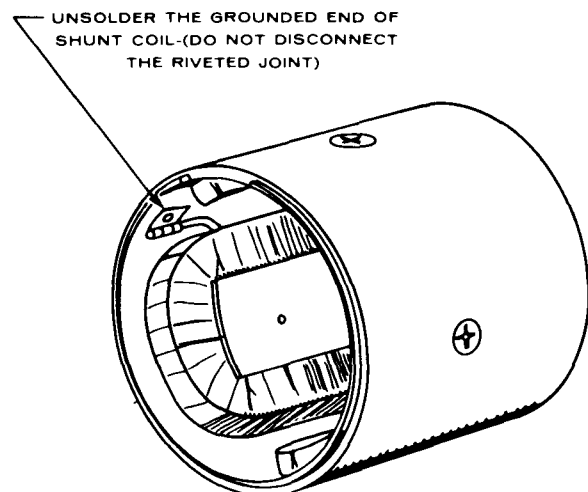

FIGURE 52
**Grounded Field Coil:** Use a 120 volt test lamp set for testing for a grounded field coil. First disconnect the grounded end of shunt coil as shown in Figure 52. Then connect one probe of test lamp to yoke and the other probe to field coil connector lead. If lamp lights, field coil is grounded.